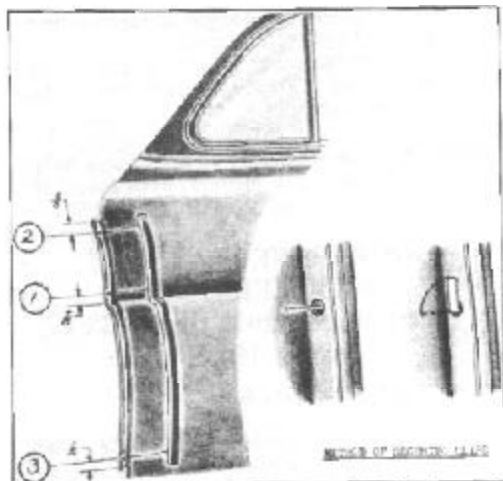

FIGURE 28
1. Turn down upper end of front rubber front weatherstrip lower and put door belt rubber weatherstrip end (2), Figure 28, in place engaging the lower clip of weatherstrip in hole near top of door channel.
1. Working from inside of car with front door open to its full width, straighten the lower tab located below lower hinge and one tab below upper hinge, Figure 28.